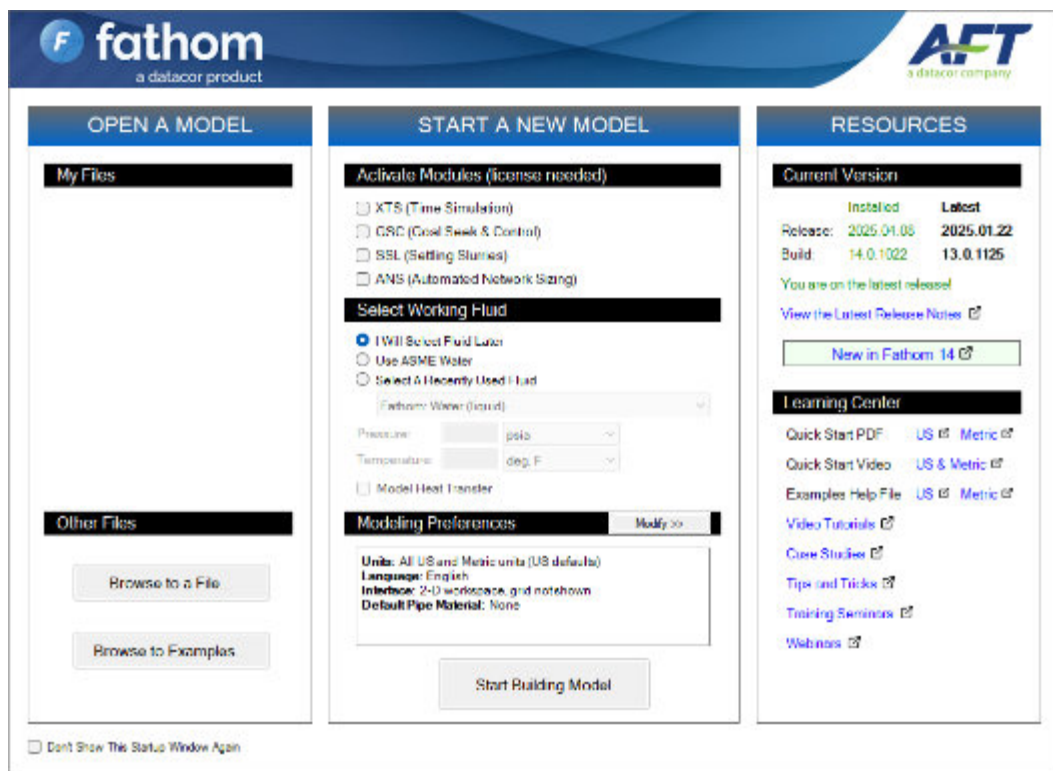
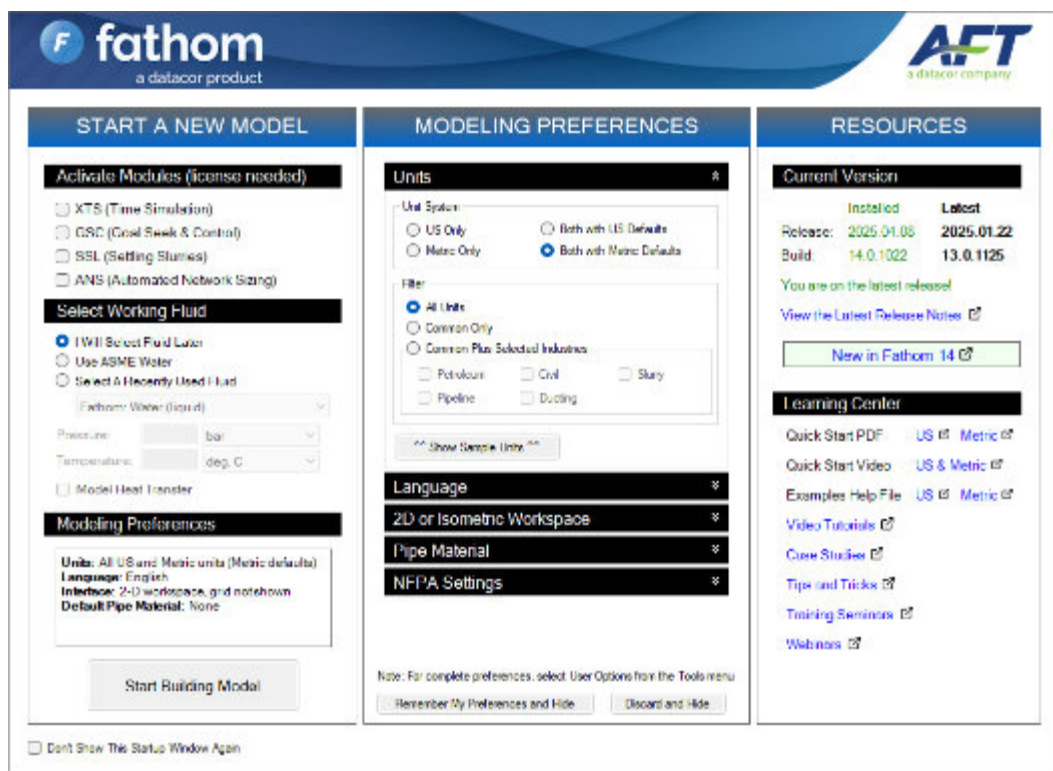

Figure 2.1 Startup Window with Modeling Preferences collapsed
Figure 2.2 Startup Window with Modeling Preferences expanded
As Fathom starts, the Fathom Startup Window appears, as shown in Figure 2.1. This window provides you with several options to choose from before you start building a model.
The first time Fathom launches, Modeling Preferences will be expanded in the middle section of the Startup Window, as shown in Figure 2.2. Otherwise, the Startup Window will appear with Modeling Preferences collapsed, as shown in Figure 2.1.
When collapsed, you can view your current Modeling Preferences at the bottom of the Start a New Model section. To further review or adjust your preferences, click the Modify button (see Figure 2.1).
- ▶ **With Modeling Preferences expanded, as in Figure 2.2, select Both with Metric Defaults under Unit System.** The Filter section can be used to limit the number of units that are shown in the interface.